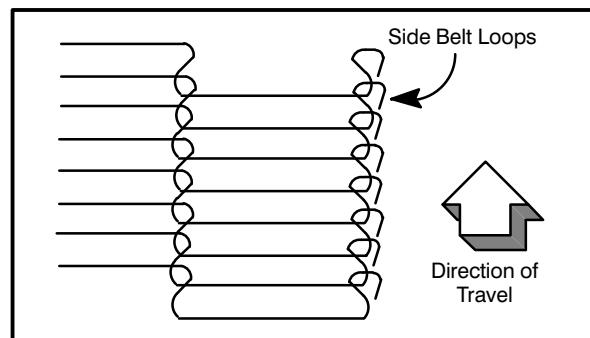

FIGURE 2
*NOTE: The conveyor belt has loops on both sides. The belt must be installed so the loops travel as shown in FIGURE 2.*